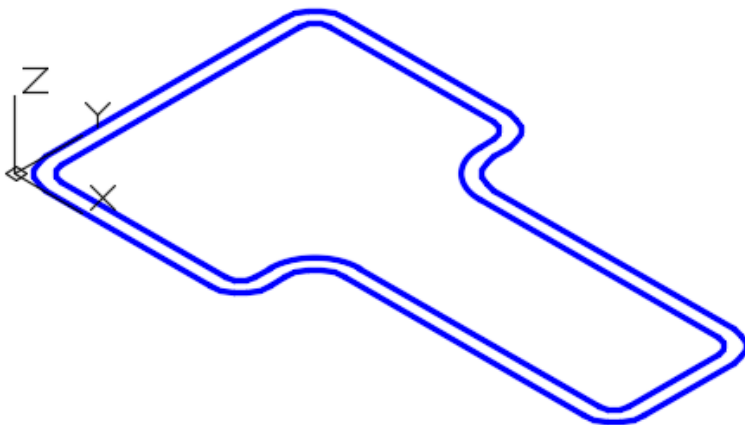

Figure Step 7
Step 7 Offset the closed pline 5 mm towards the inside. (Figure Step 7)